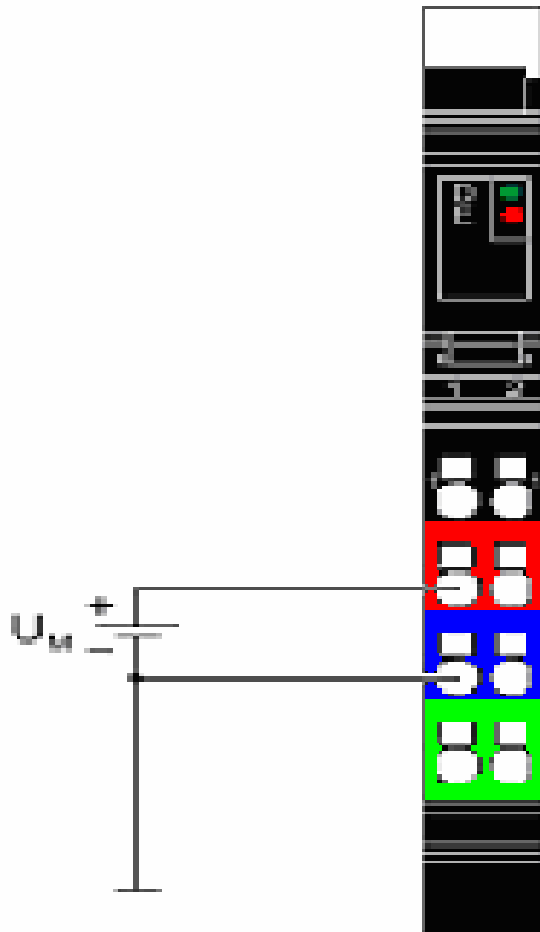

Figure 3
- Connect +24VDC to pins 1.2, and/or 2.2 (RED Terminals) on the Power In Module (CON-PDM). (See Figure 3)
- Connect -24VDC to pins 1.3 and/or 2.3 (Blue Terminals) on the Power In Module (CON-PDM). (See Figure 3)